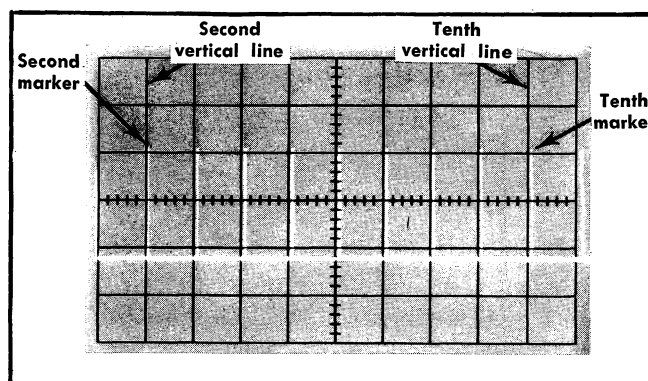

Fig. 5-4. Timing check.
d. CHECK—CRT display for one marker per division. With the second marker positioned exactly to the second vertical line, the tenth marker must be within 3% (0.24 div) of the tenth vertical line (see Fig. 5-4).